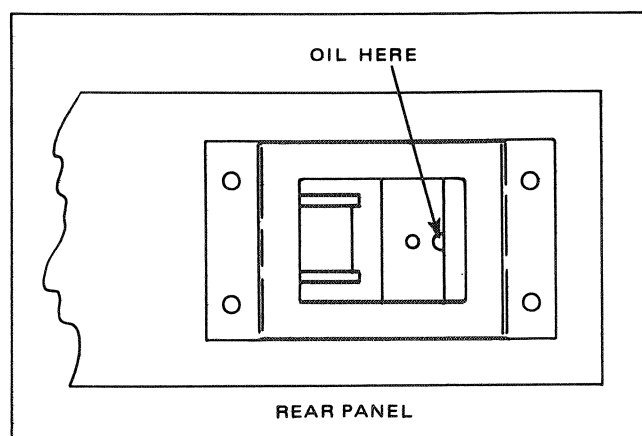

Figure 4.4 - Oil Pad Location
4.7 The fan on the rear panel assembly, Dana P/N 406732, used with the 009 option requires oil periodically. The location of the oil pad is indicated in figure 4.4.